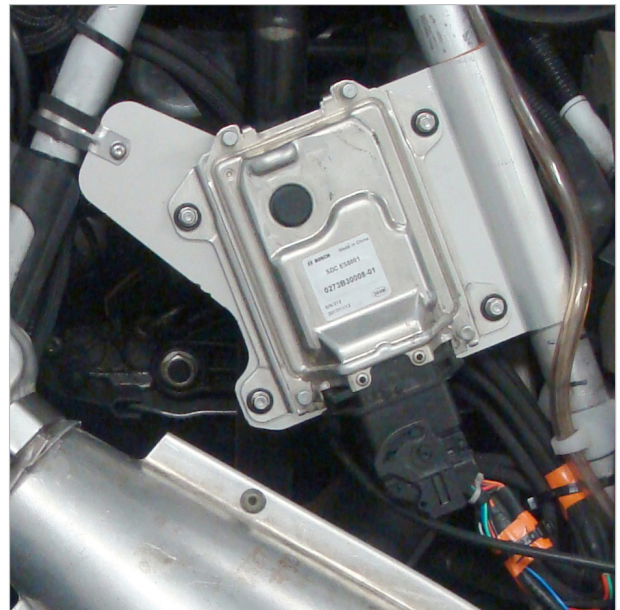

Figure 43
5. Connect the main harness connector to the ECU assembly (Figure 43).